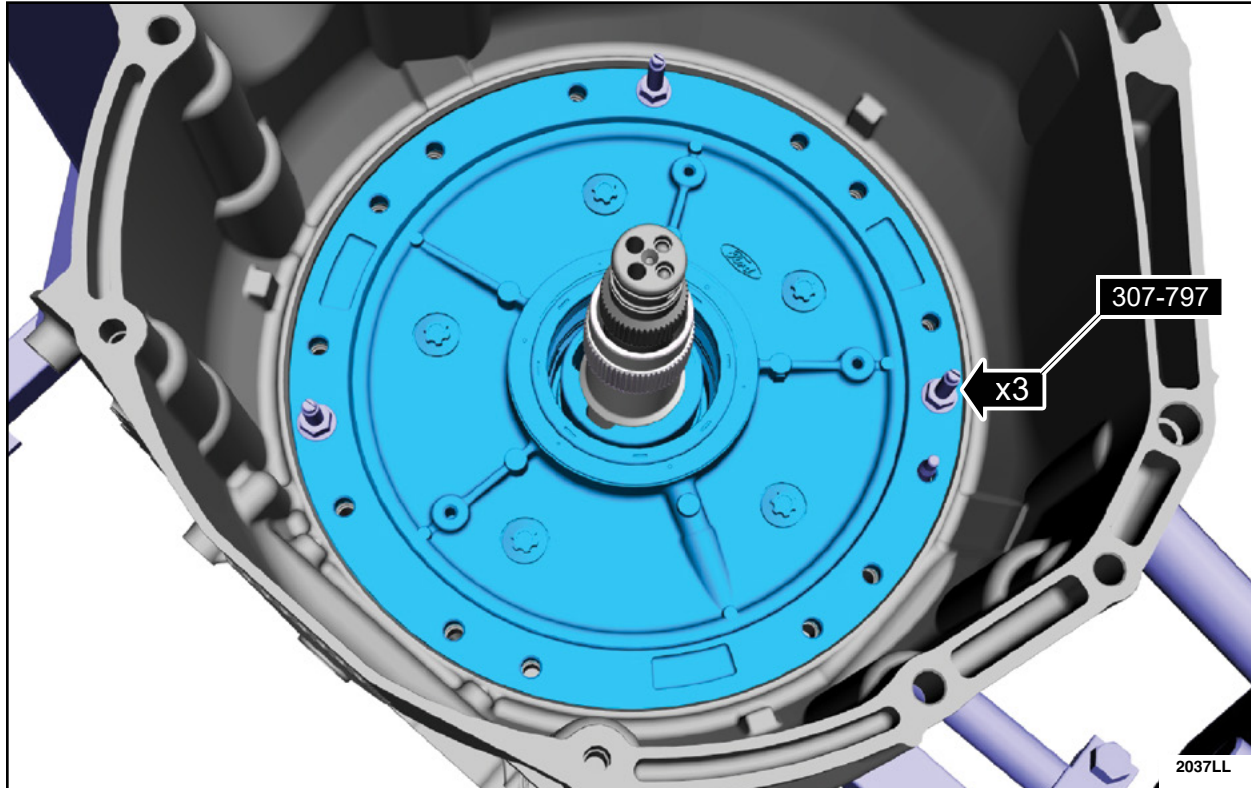

FIGURE 31
33. Install special tool 307-797 studs, washers and nuts in the location shown. See Figure 31.